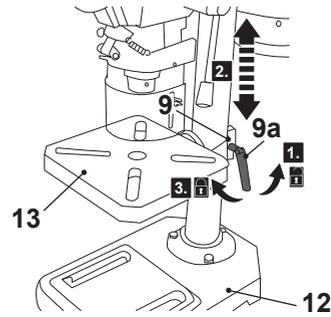

Fig. 10
1. Turn the clamping lever (9a) anticlockwise to loosen the clamp (9) (Fig. 10, step 1).
2. Adjust the drill table (13) to the required height (Fig. 10, step 2) and align the drill table (13) with the base (12) and machine head (6).
3. Tighten the clamping lever (9a) clockwise afterwards (Fig. 10, step 3).